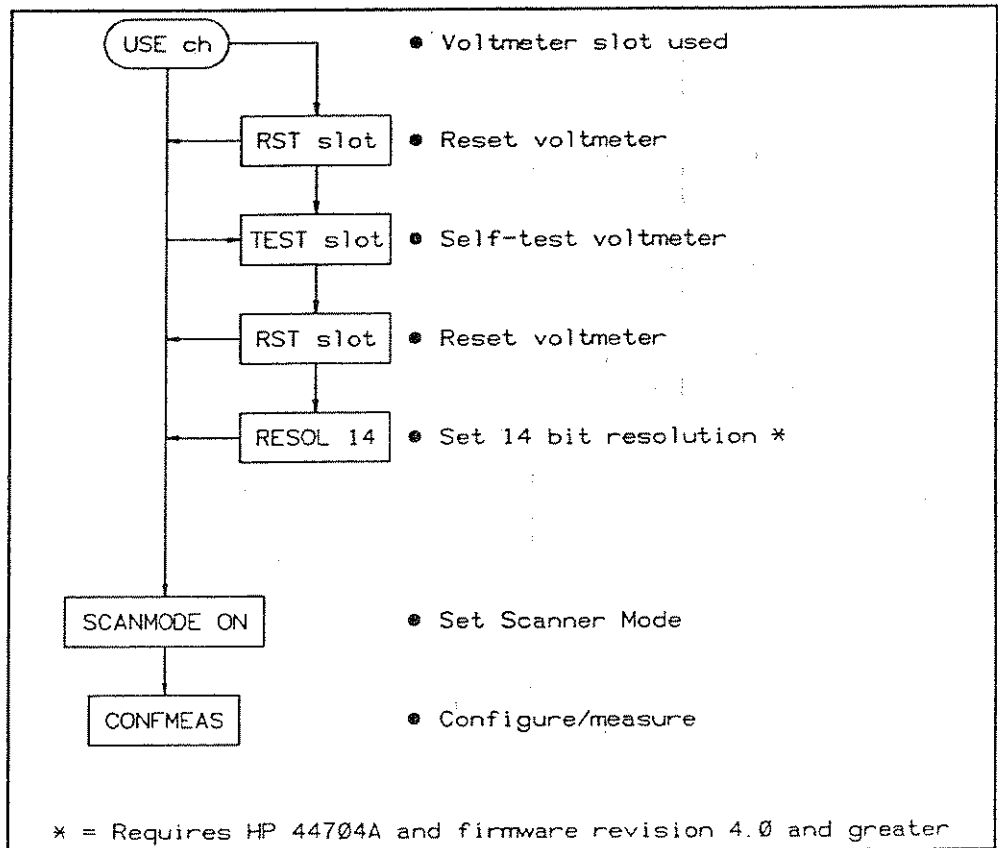

Figure 5-3. CONFMEAS Programming Sequence
**CONFMEAS Programming Sequence** Figure 5-3 shows the recommended command sequence to program the voltmeter for Scanner Mode measurements using CONFMEAS. In Figure 5-3, the solid line path indicates required commands while the dotted line shows optional commands. Thus, USE *ch*, SCANMODE ON, and CONFMEAS are required commands for Scanner Mode ribbon cable measurements with CONFMEAS, while RST *slot* and TEST *slot* are optional commands.